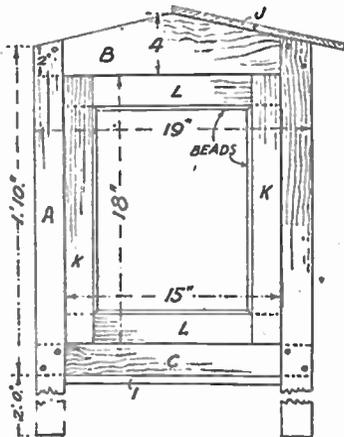

Fig. 2
half-lapped together as shown in Figs. 2 and 3, and glued and screwed together.
Two boards (J) each measuring 17ins. long by about 6ins. wide will form each slope of the roof, the tongued and grooved joint running from front to back as seen in Fig. 2. Nail the boards well to the top and side rails of the framework, and note that they overhang the front by 2ins. and the back by 3/4in. The side overhang is shown in Fig. 2. Cover the roof boards with stout felt or lino, brought over the edges and tacked down, a narrow spline being added at the front and back as in Fig. 6.